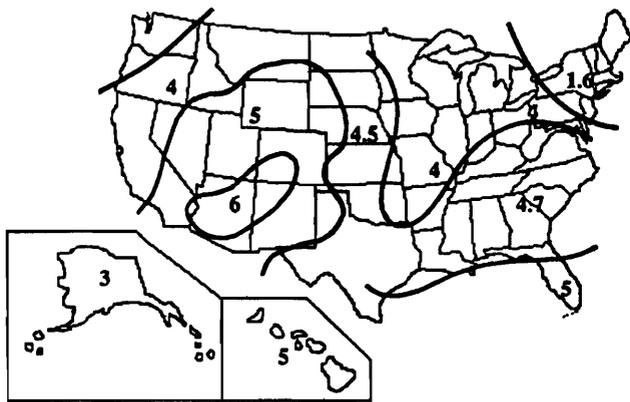

Figure 11-2. Yearly average equivalent sun hours per day. Illustration courtesy of Sierra Solar Systems.
The appendix at the back of *The Solar Electric Independent Home Book* contains a detailed list of insolation figures for solar panels tilted to three different angles for numerous North American cities at different times of the year. Use figures 11-2 and 11-3 for a rough estimate of your insolation, but contact your RE dealer or check out *The Solar Electric Independent Home Book* for more accurate figures.
1. Locate your site (or one near you) in Figure 11-2 or 11-3 and list the figure for average equivalent daily hours of sunlight.